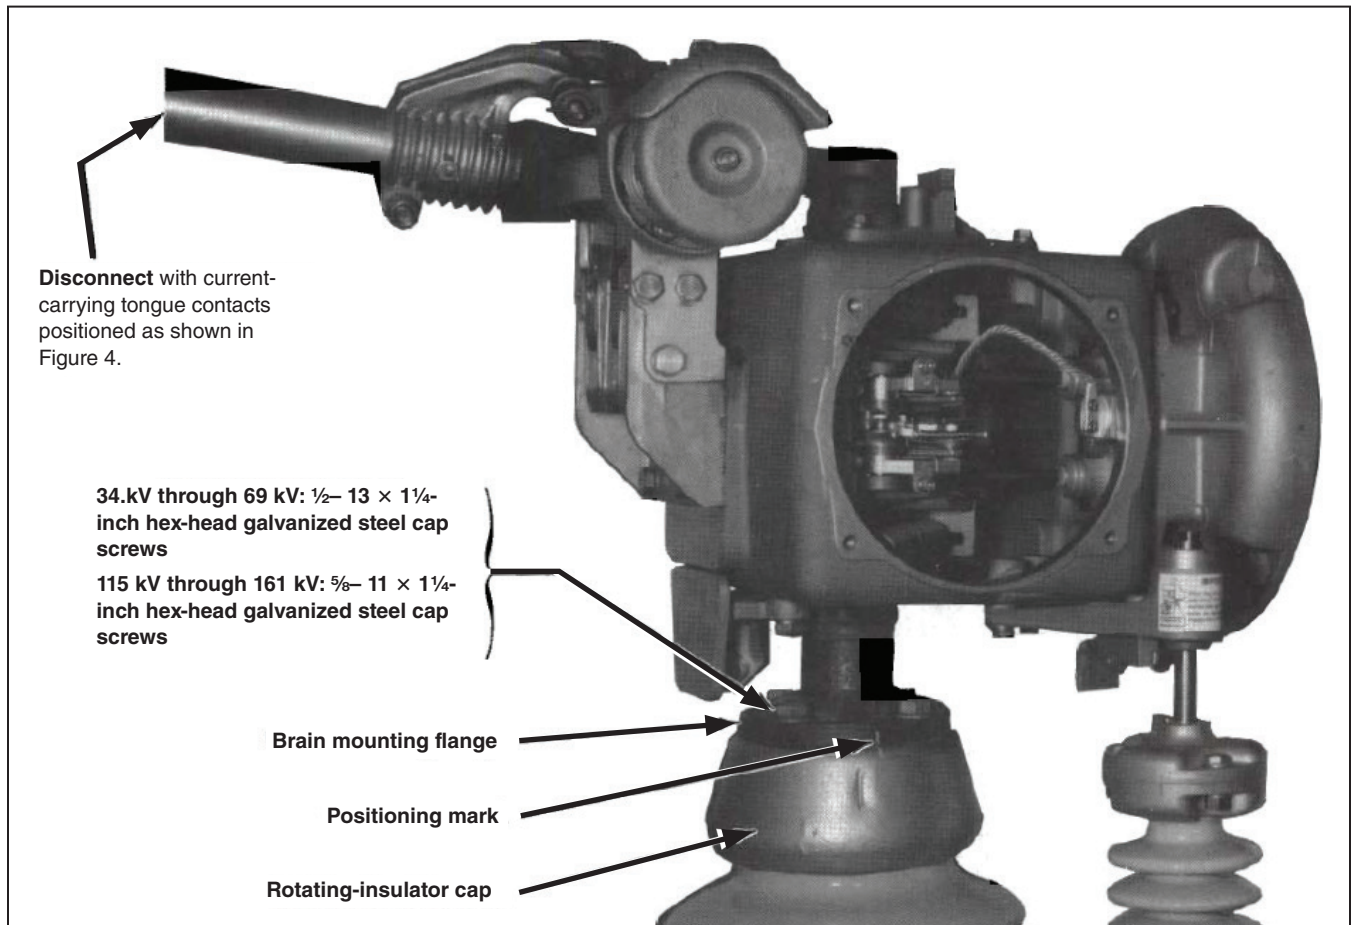

Figure 5. Overtravel adjustment on vertical-break style or integer-style circuit-switcher.
- With the disconnect in this position, draw a vertical positioning mark across the brain mounting flange and the rotating insulator cap. See Figure 5 on page 11.
- STEP 3.** Loosen the four $\frac{1}{2}$ – 13 × 1 $\frac{1}{4}$ -inch hex-head galvanized steel cap screws (on circuit-switchers rated 34.5 kV through 69 kV) or the four $\frac{5}{8}$ – 11 × 1 $\frac{1}{4}$ -inch hex-head galvanized steel cap screws (on circuit-switchers rated 115 kV through 161 kV) attaching the brain mounting flange to the rotating insulator cap. See Figure 5 on page 11.